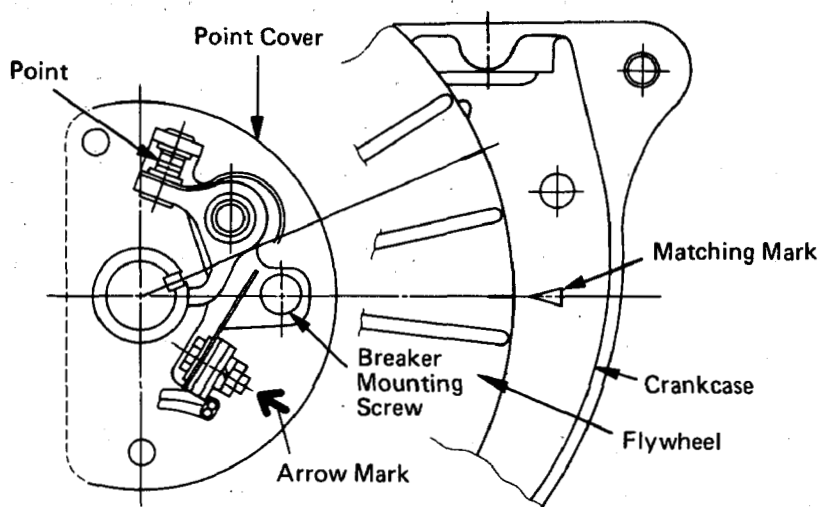

Fig. 19
- 8) Now, in this state, adjust the contact breaker as shown below. (See Fig. 19.)